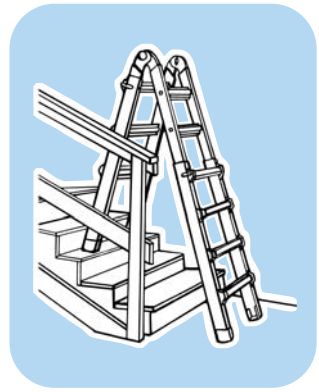

Figure E-1
2. Then adjust the side desired for proper alignment to fit the staircase (see figure E-1).